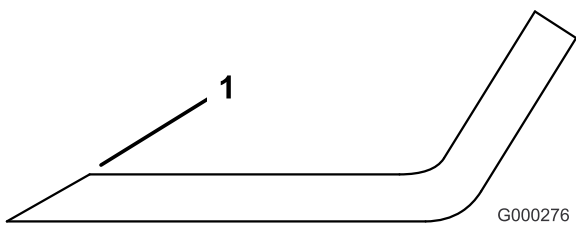

Figure 50
1. Use a file to sharpen the cutting edge at both ends of the blade (Figure 50). Maintain the original angle. The blade retains its balance if the same amount of material is removed from both cutting edges.